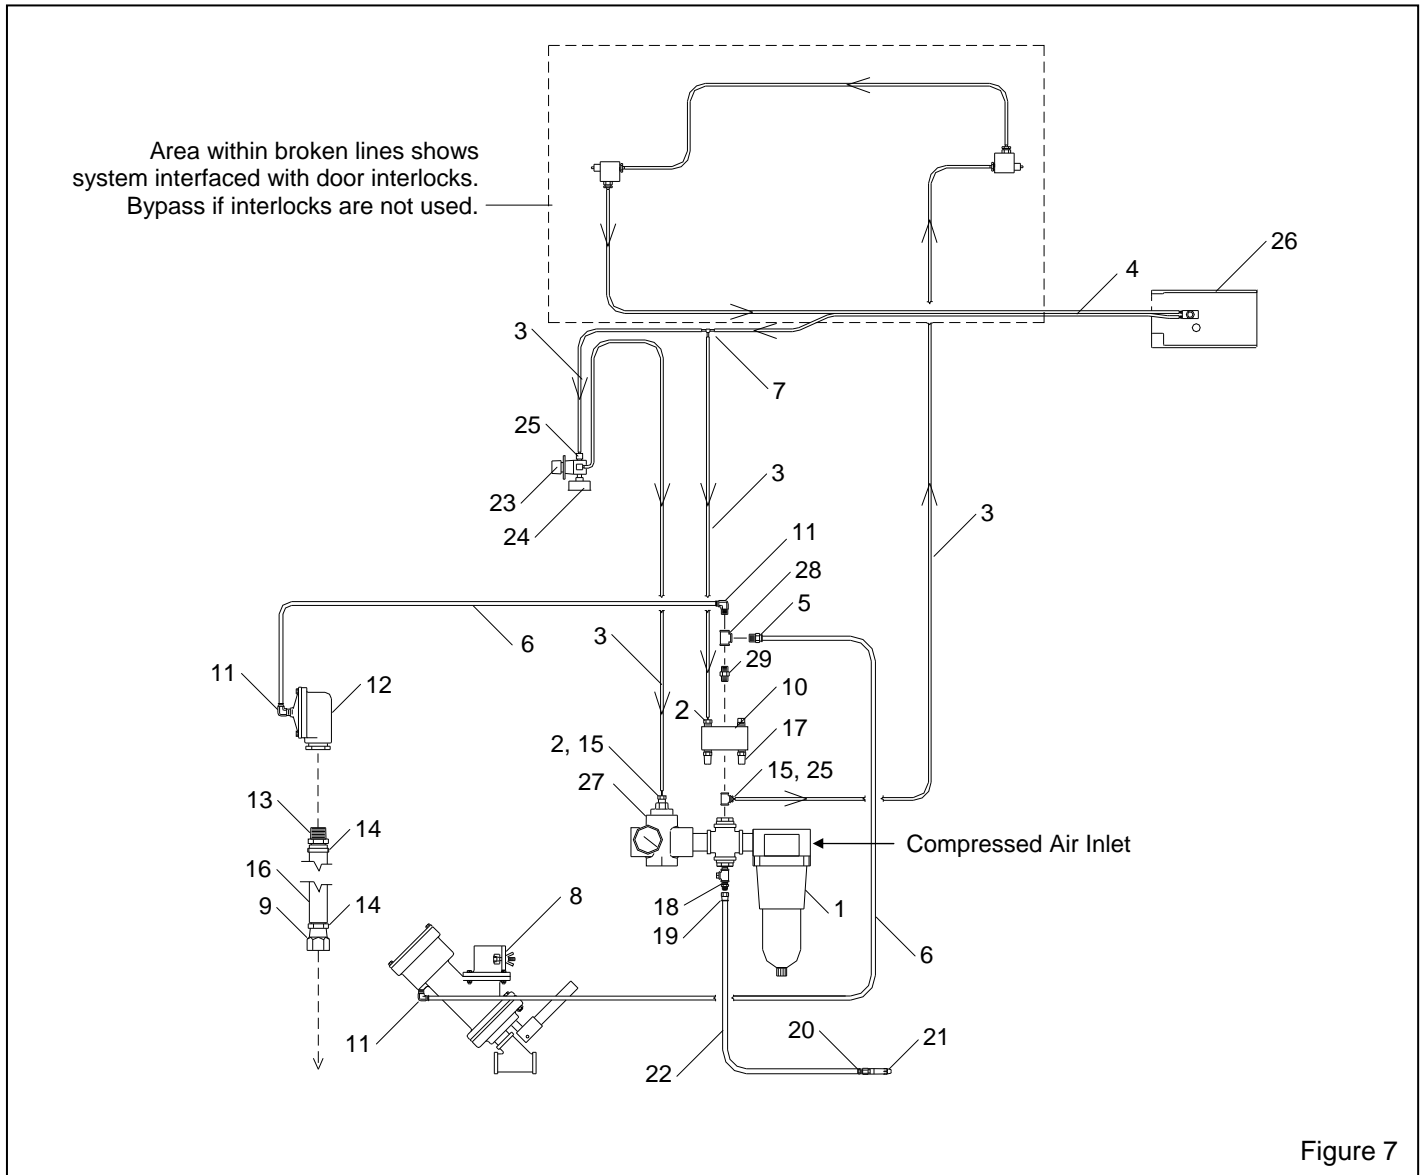

Figure 7
9.4 Plumbing Assembly, Figure 7